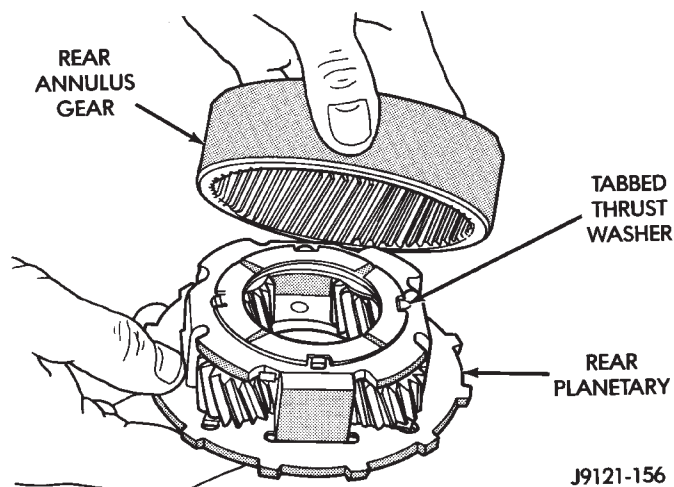

Fig. 228 Assembling Rear Annulus And Planetary Gear
(1) Lubricate output shaft and planetary components with transmission fluid. Use petroleum jelly to lubricate and hold thrust washers and plates in position.
(2) Assemble rear annulus gear and support if disassembled. Be sure support snap ring is seated and that shoulder-side of support faces rearward (Fig. 228).
(4) Install rear annulus over and onto rear planetary gear (Fig. 228).